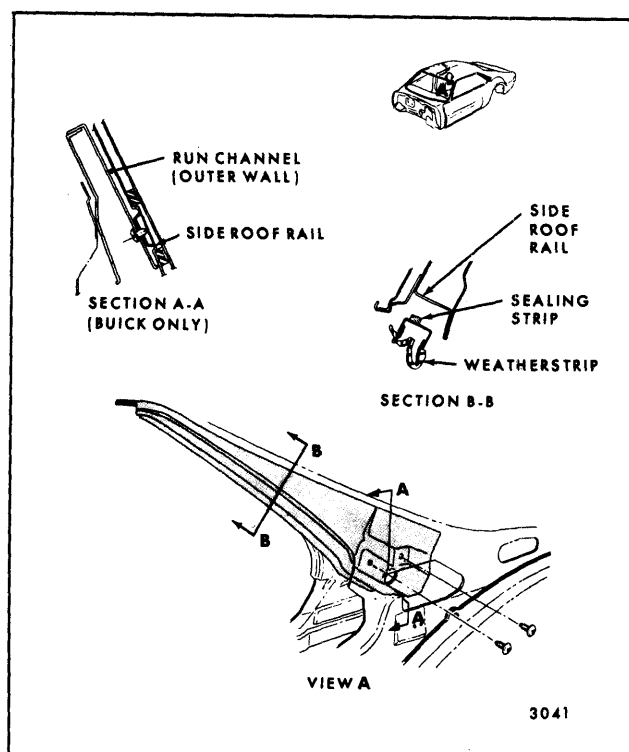

Fig. 6-11—Rear Quarter Glass Run Channel
3. Remove screw(s) securing side roof rail weatherstrip (rear section) to side roof rail (Fig. 6-11), and rear quarter panel.
discard saturated polyurethane foam sealing strip from side roof rail weatherstrip retainer and/or side roof rail (Sec. 'B-B', Fig. 6-11).